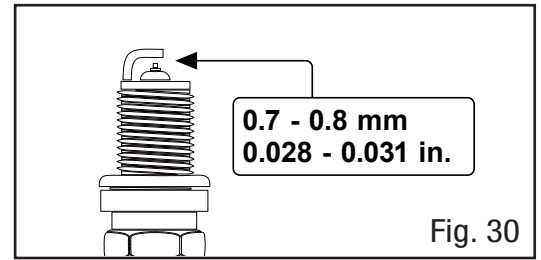

Fig. 30
6. Measure the plug gap with a spark plug gap gauge. The gap should be 0.7 - 0.8 mm (0.028 - 0.031 in) (Fig. 30). Carefully adjust the gap if necessary.